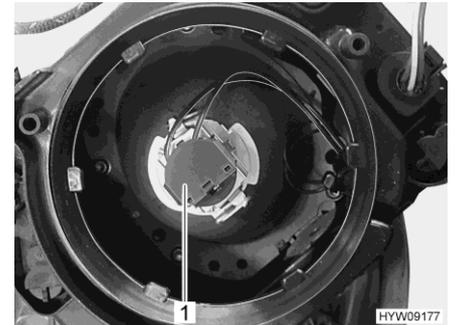

Fig. 162 Bulb (low beam/main beam)
- Turn the holder (Fig. 162,1) with the lamp in an anticlockwise direction and take it out of the lamp housing.
- Insert the holder (Fig. 162,1) with bulb into the lamp housing and tighten in a clockwise direction. The holder engages audibly.